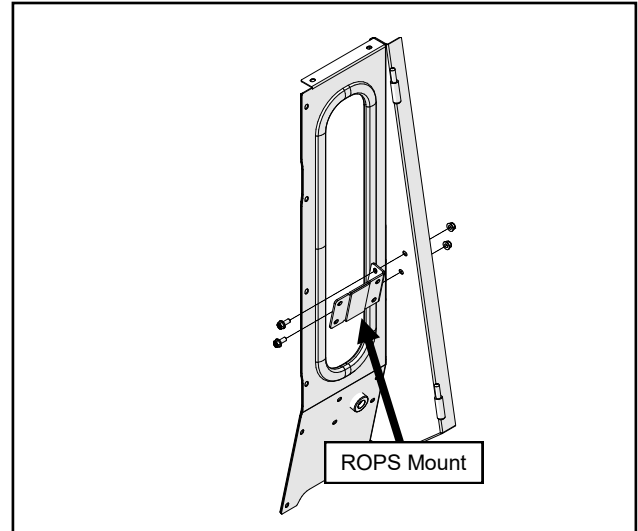

Fig. 2.1 (Pre-Assemble ROPS Mount to Rear Leg)
- 2.1 Pre-assemble the left rear leg and a ROPS mount. See Figure 2.1.